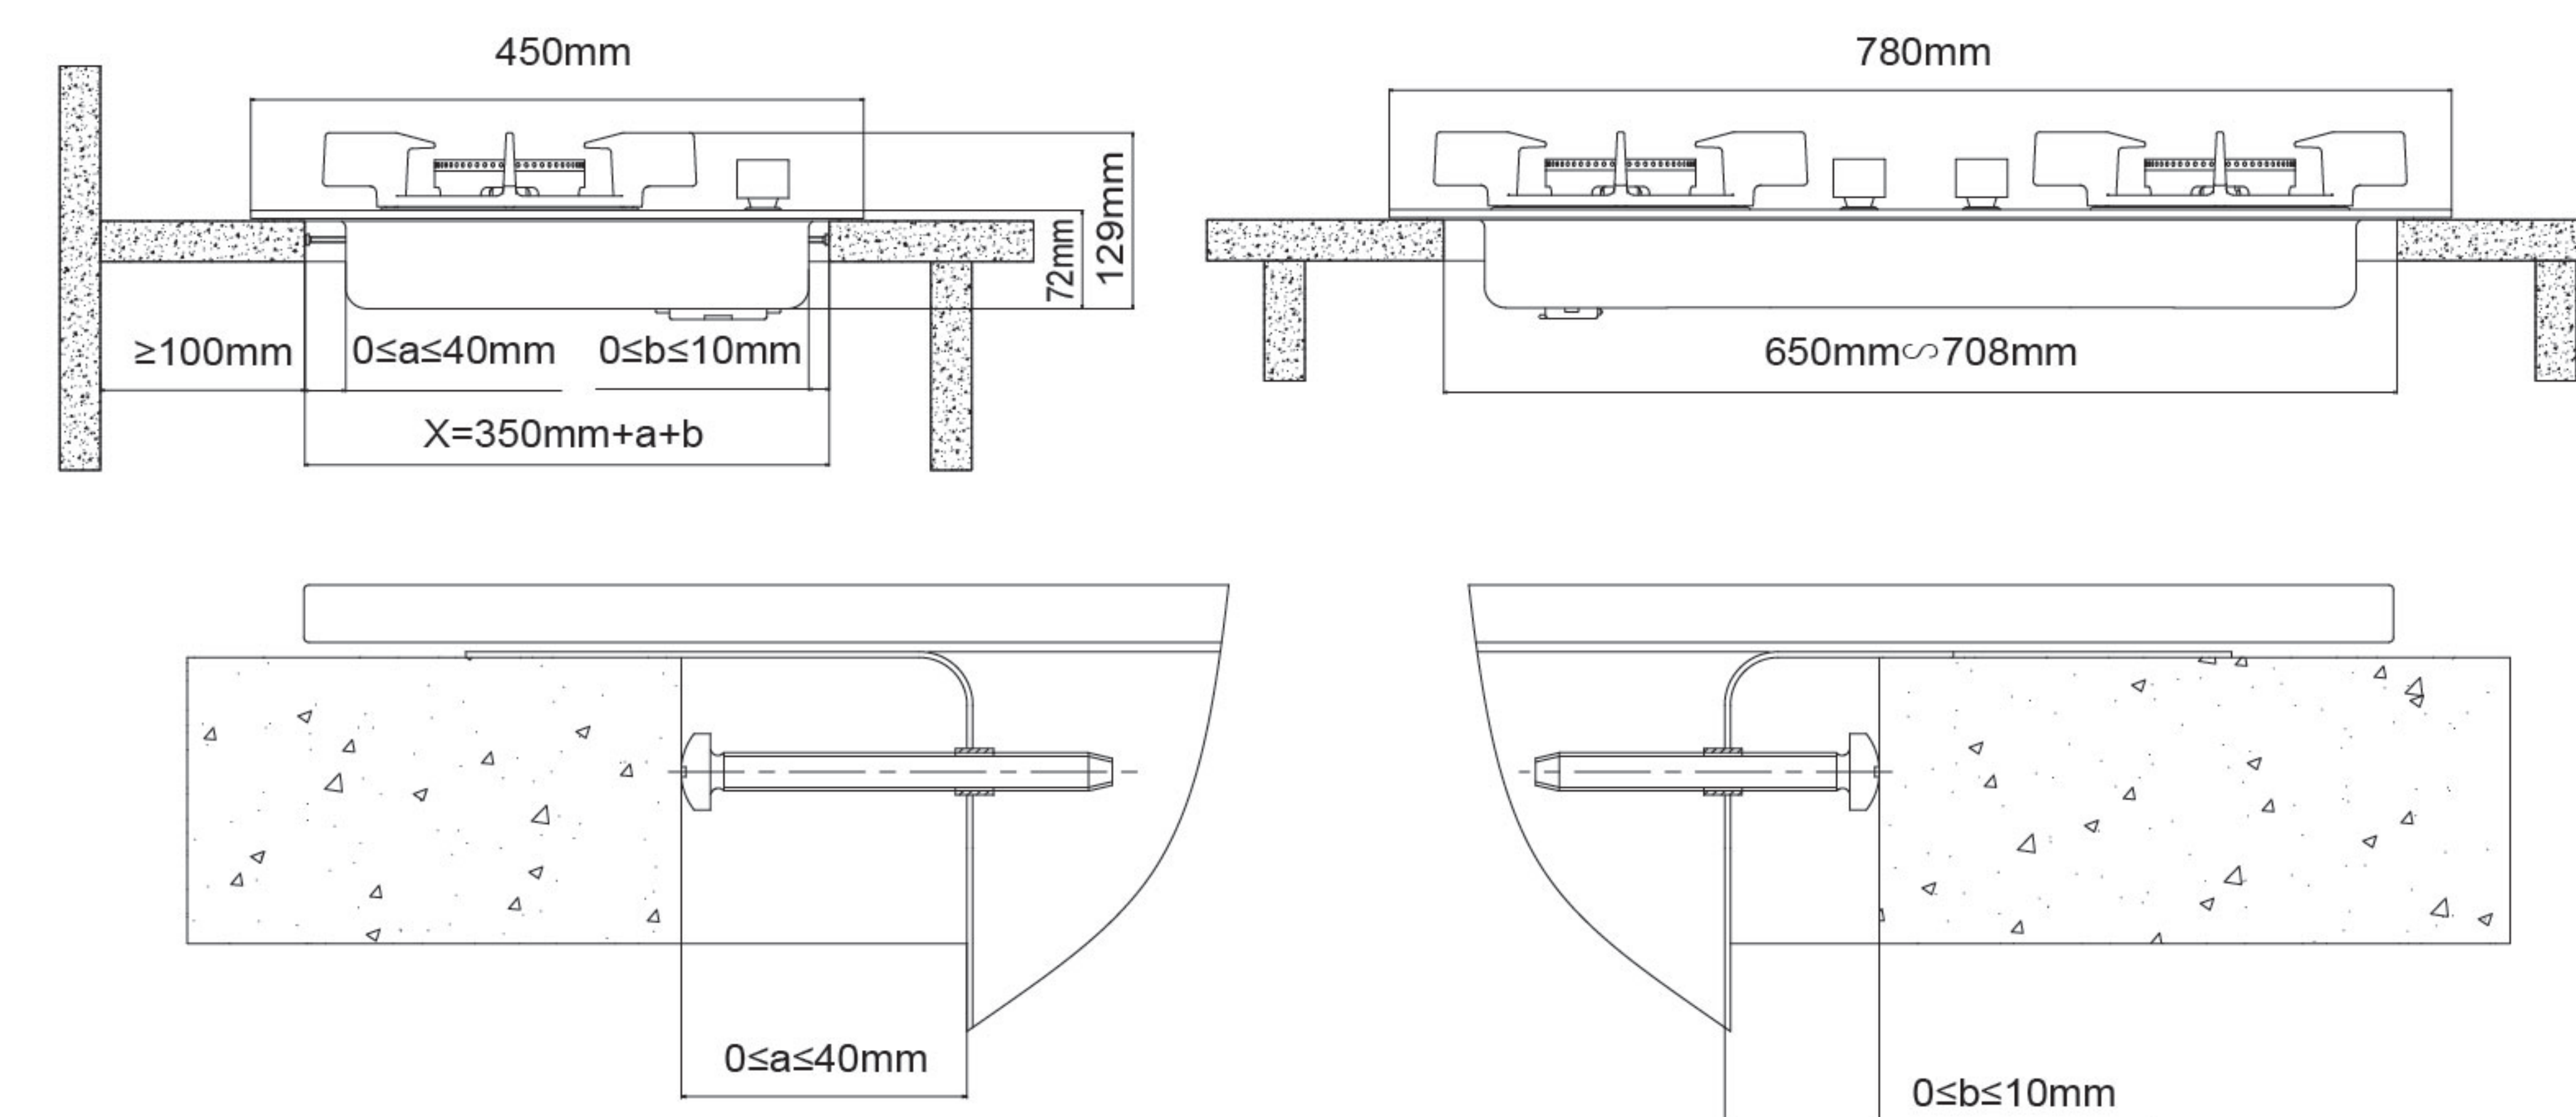

Fig.7
- 1.The stove should be installed into durable and horizontal kitchen countertop. For the hole size on the countertop, please refer to the installation diagram Fig 7. Make sure the distance from the inflammable matters must be greater than 150mm, and from noncombustible matters greater than 50mm.